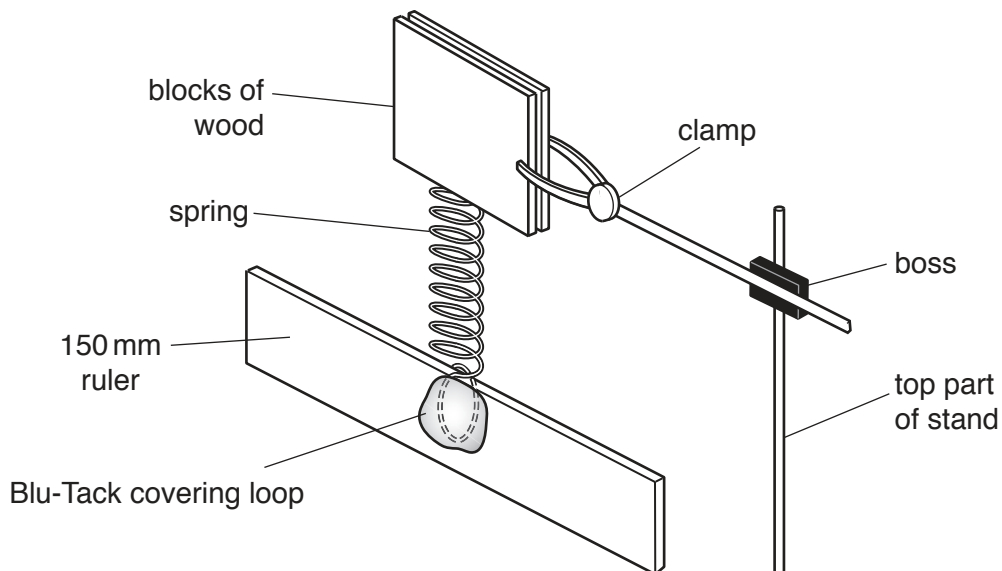

Fig. 2.4
3. The **Supervisor** should assemble the apparatus as shown in Fig. 2.4. The ruler should be horizontal and approximately 10 cm above the bench.
- ensure that the apparatus is still set up as shown in Fig. 2.4 with the ruler horizontal.